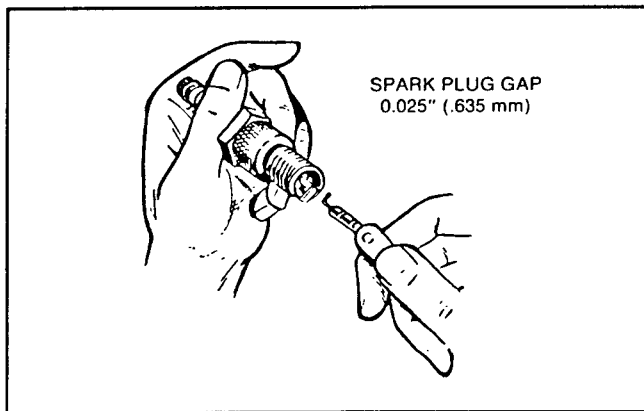

Figure 15
4. After setting air gap (Fig. 15) at 0.025 in. (.064 mm), install the spark plugs in the cylinder head. Tighten the spark plugs to a torque of 22 ft-lb (30 Nm). Push the high tension wires onto the spark plugs.